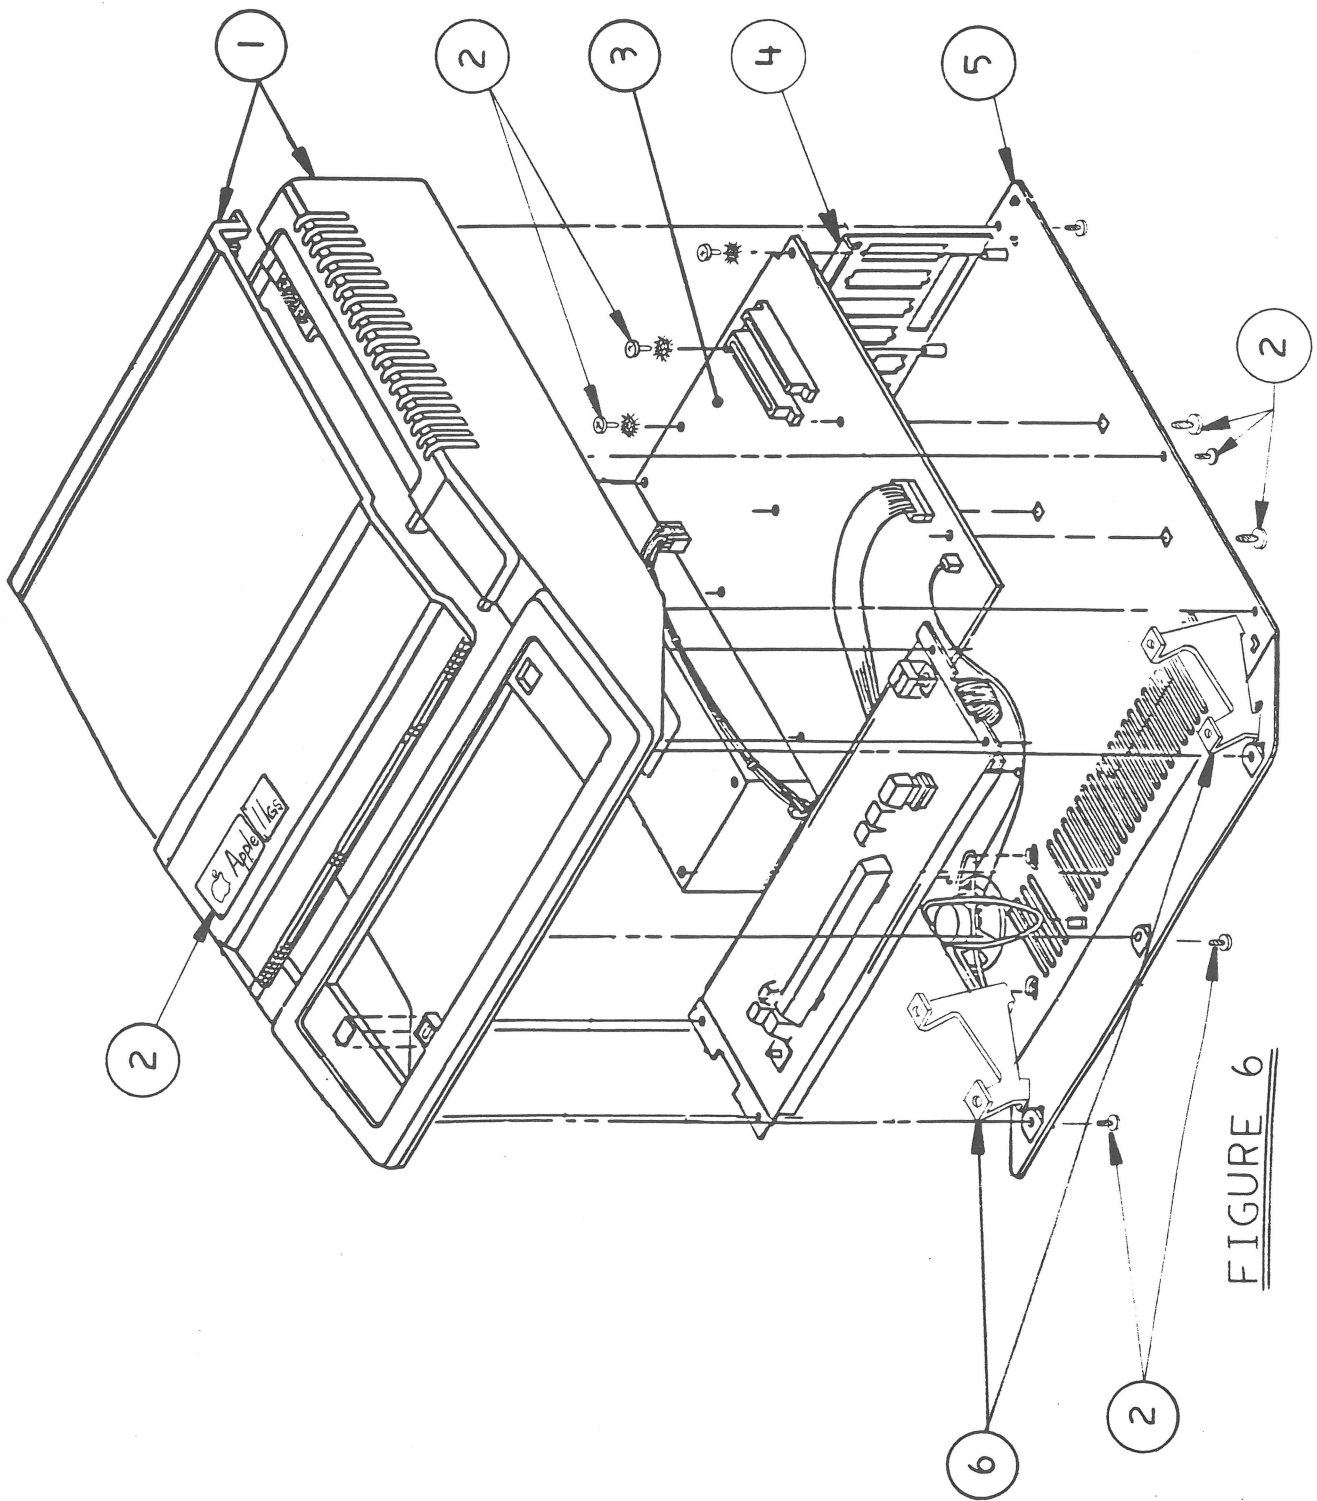

FIGURE 6
- IPL.13 Upgrade (Figure 6)
□ **APPLE IIGS – UPGRADE (Figure 6)**